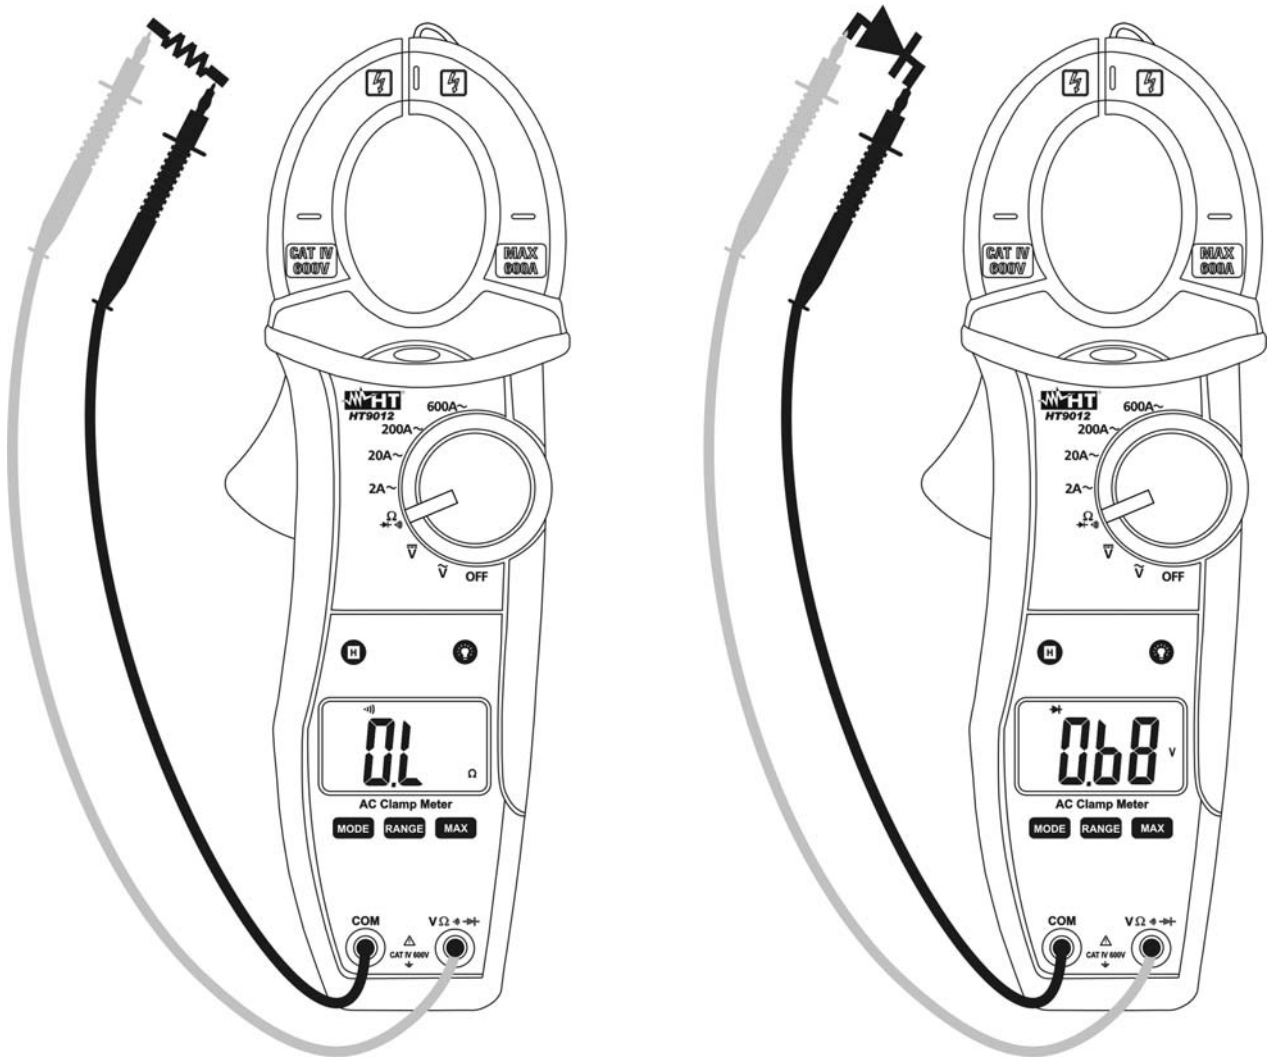

Fig. 7: Taking continuity test and diode test
3. Insert the red test lead plug into $V\Omega \rightarrow \text{diode symbol}$ jack and the black test lead plug into **COM** jack and perform continuity test on the object on test (see Fig. 7 – left side). Buzzer emits sound if the measured resistance value is less about 100Ω
5. Connect the red test leads to the anode of diode on test and the black test lead on the cathode ones (see Fig. 7 – right side)